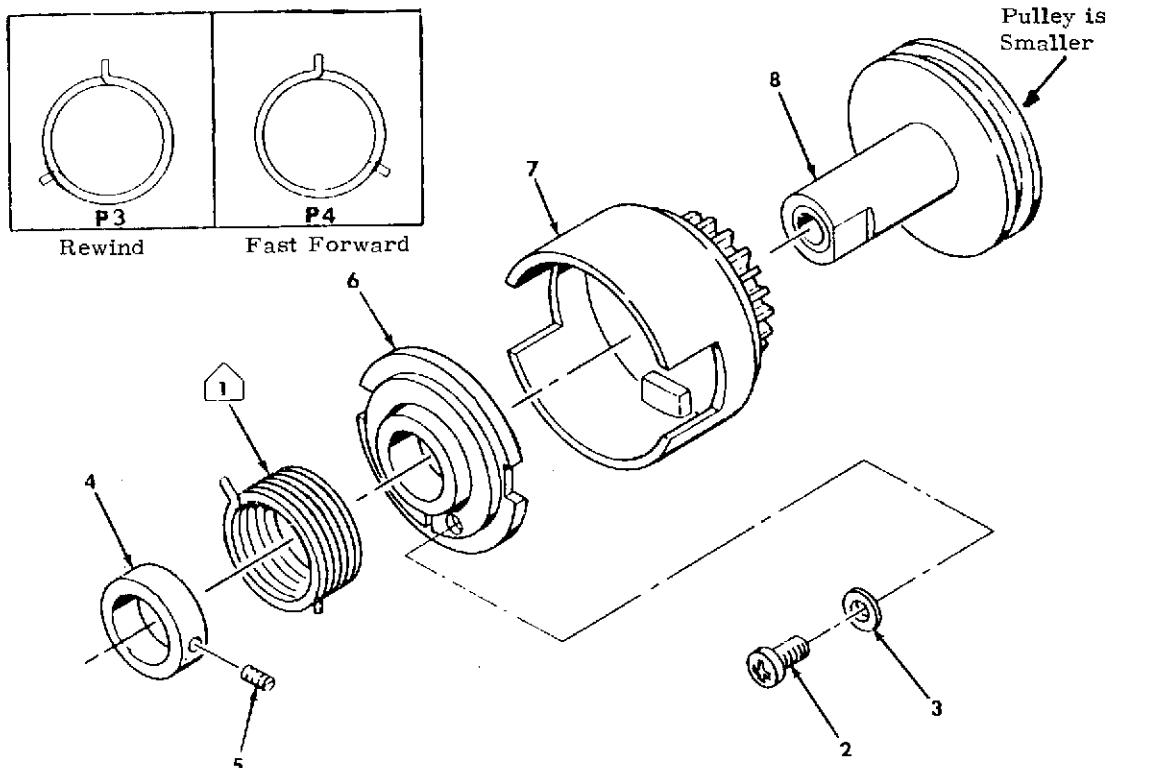
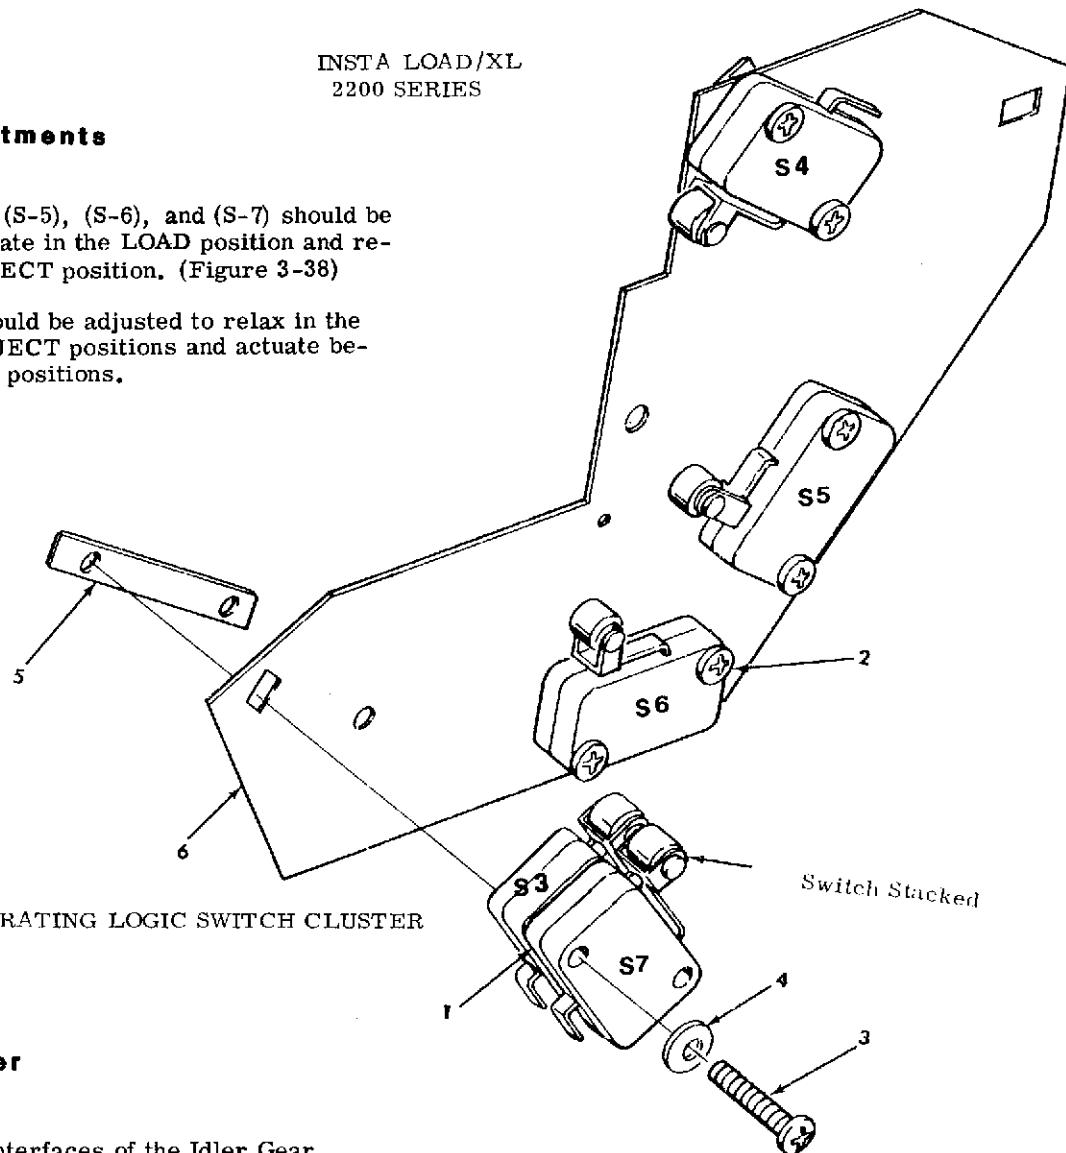

Figure 3-37. REWIND and FAST FORWARD CLUTCH REASSEMBLY
Figure 3-38. OPERATING LOGIC SWITCH CLUSTER
- Lubricate the outside diameter of the shaft of the Pulley Assembly (8) and assemble the Gear (7) and the Drum (6) to the shaft as shown (Figure 3-37)
- Seat the notches of the Drum (6) over the raised lugs inside the Cup Gear (7).
- Assemble the Arbor (4) on the shaft of the Pulley (8) and tighten the Setscrew (5) in the notch in the end of the shaft allowing for end play of .005" to .010".
- Apply three or four small drops of Teresso Instrument Oil (39479-P8) on the Arbor (4) and push the Spring (1) over the Arbor until it is seated on the Drum (6) with its tail trapped in the slot in the Drum.
- Assemble Screw (2) and Washer (3) to the Drum (6) trapping the tail of the Spring (1) permanently in the slot of the Drum (6).
1. Switches (S-3), (S-5), (S-6), and (S-7) should be adjusted to actuate in the LOAD position and relax in the PROJECT position. (Figure 3-38)